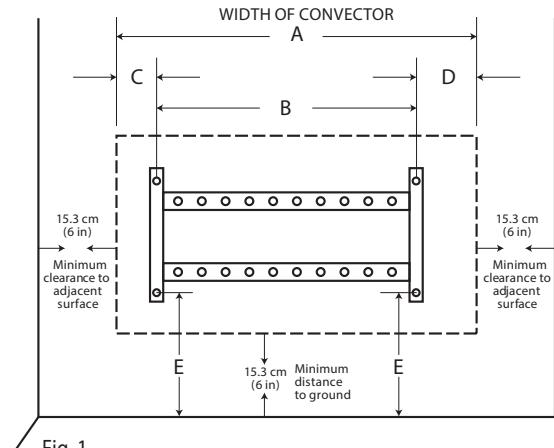

Fig. 1
Choose a suitable location for mounting the convector. The location shall have enough space and clearance as illustrated in Fig. 1.
2. Use the mounting bracket as a template by holding it against the wall as illustrated in Fig. 1.
3. Follow the dimensions specified in Fig. 1 and place mounting bracket in the desired location.